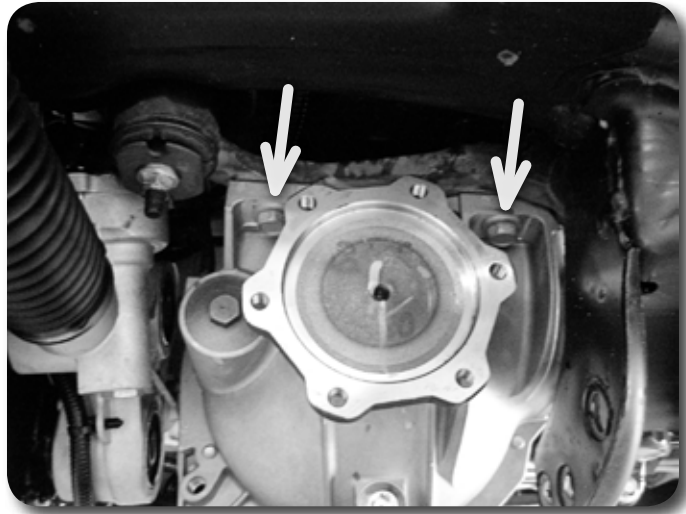

Figure 18
28. Support the front differential with an appropriate jack. Remove the two driver's side differential mounting bolts Figure 18 and the two passenger's side mounting nuts. Carefully lower the differential to the ground. Save mounting hardware.